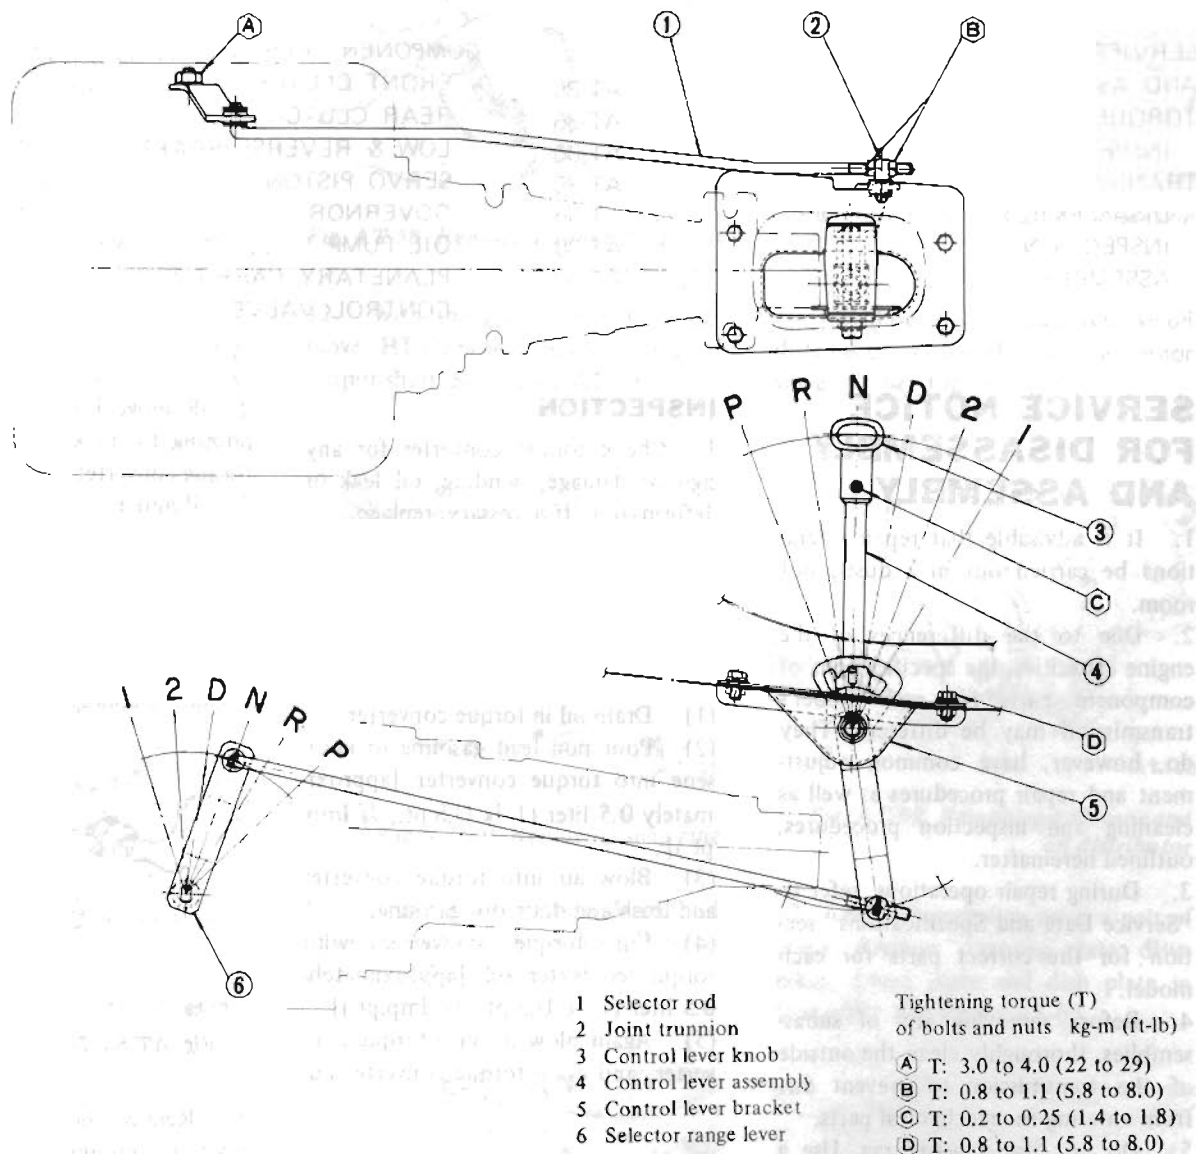

Fig. AT-51 Control linkage system
1. Loosen adjust nuts (B). See Figure AT-51.
2. Set control lever (4) and selector range lever (6) at "N" position. See Figure AT-51.
3. Set selector rod (1) to trunnion (2) by turning in or out adjust nuts. See Figure AT-51.